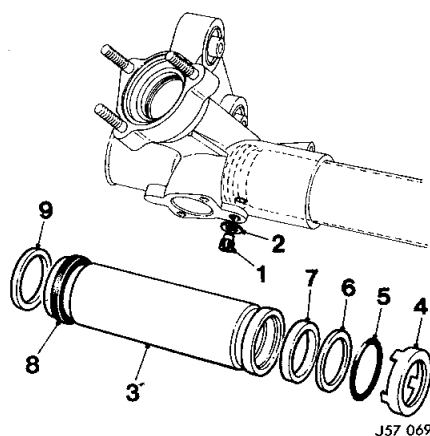

Fig. 29
Remove the hexagon socket grub screw (1, Fig. 29) from the pinion end rack housing and collect the sealing washer (2, Fig. 29).
Remove the rack complete with the inner sleeve (3, Fig. 29) from the bore of the rack tube.
**NOTE:** Removal of the inner sleeve over the rack teeth will destroy the seal (6, Fig. 29).
Bend up the retaining tabs on the seal cap (4, Fig. 29) and remove the cap from the inner sleeve.
Remove the seal 'O' ring (5, Fig. 29), seal (6, Fig. 29) and split bearing (7, Fig. 29).
Remove the rubber 'O' ring (8, Fig. 29) and nylon washer (9, Fig. 29) from the bottom of the rack tube.
Apply a smear of silicone to the bore of the new square section sealing ring. Fit the nylon backing washer (9, Fig. 29) and sealing ring (8, Fig. 29) into the bore of the rack tube; slide them all the way down until they contact the pinion end main housing.
Look into the hexagon socket screw hole and ensure that the retaining shoulder has passed the hole. Fit the sealing washer and socket grub screw (1 & 2, Fig. 29). After tightening, it should fit flush to slightly proud, stake in position.